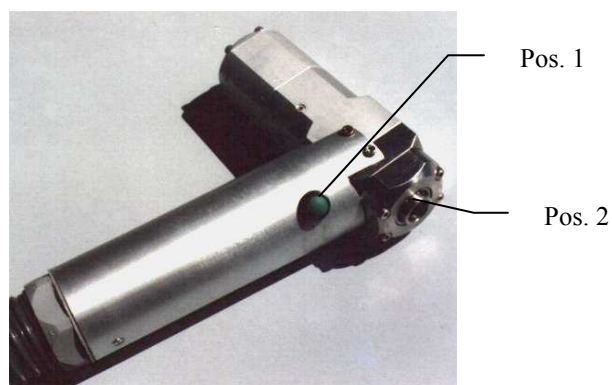
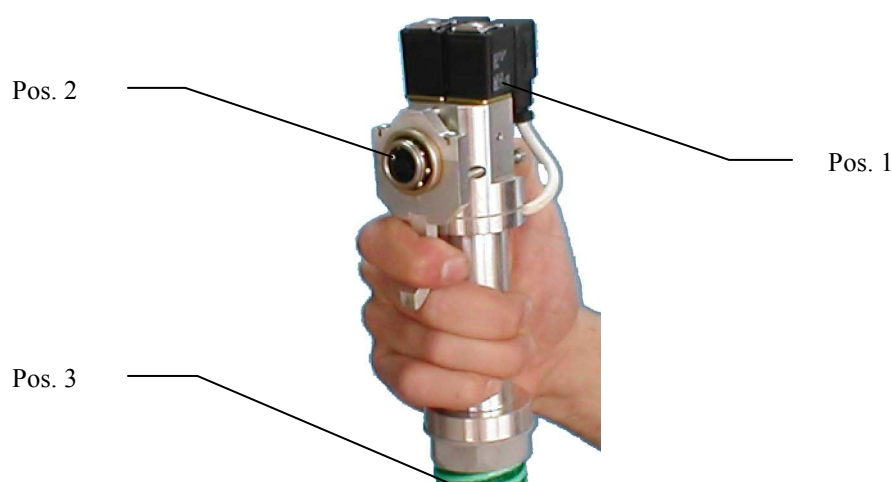

Figure 2.11a Vacuum and charging filler (FILCAS type)
Figure 2.11d Evacuation and charging filler (VORTFILLER+ type)
The vacuum and charging filler can be pneumatic driven, type FILCAS, ISSO (see figures 2.11a and 2.11b) or electrical driven (see figure 2.11d).
On the filler handle there is the start operation button (pos. 1 fig. 2.11a) with the following functions:
On the front side there is the 1/4" quick female Hansen coupling (pos. 2 fig. 2.11a): its spheres locknut is pneumatically driven.
The VORTFILLER+ (fig. 2.11d) has 2 solenoid valves (pos. 1 fig. 2.11d), one for the vacuum circuit and the other for the refrigerant one. The connection to the cooler circuit in working (pos. 2 fig. 2.11d) is female Hansen type.
The protective covering (pos. 3 fig. 2.11d) is similar to that of the ISSO filler and inside it there are: